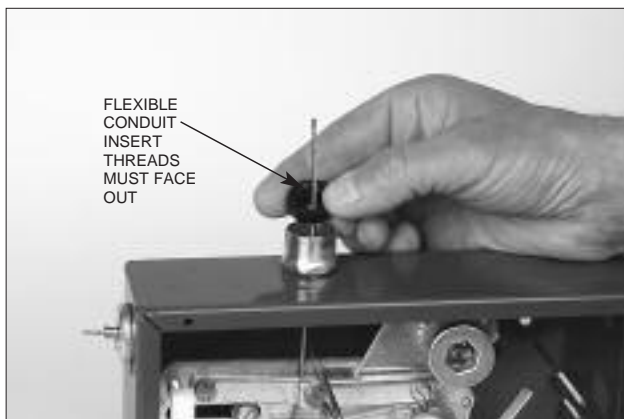

FIGURE 4
4. Thread the stainless steel wire rope through the EMT conduit connector and flexible conduit insert. Make certain thread in flexible conduit insert is facing out toward end of connector. See Figure 4.